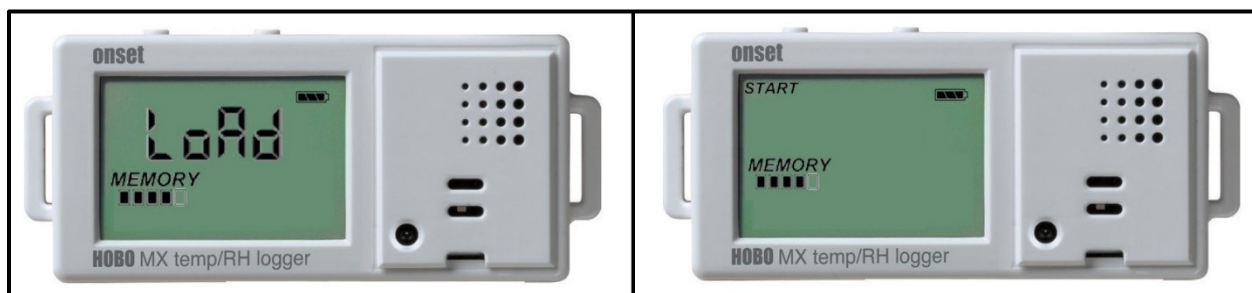

Figure A.6.13: The MX1101 Data Logger with HOBOMobile settings being loaded (left) and settings done loading (right).
5. Tap “Start” to complete the configuration. The screen of the MX1101 Data Logger will display what is shown on the left of Figure A.6.13. This means that the settings that were set in this section and section A.6.2 are being sent to the MX1101 Data Logger.
6. Once HOBOMobile is done sending its user defined settings to the MX1101 Data Logger, the logger’s LCD screen will display what is shown on the right of Figure A.6.13. The logger will begin collecting data on the date and time that was set on step 4.b of section A.6.2.